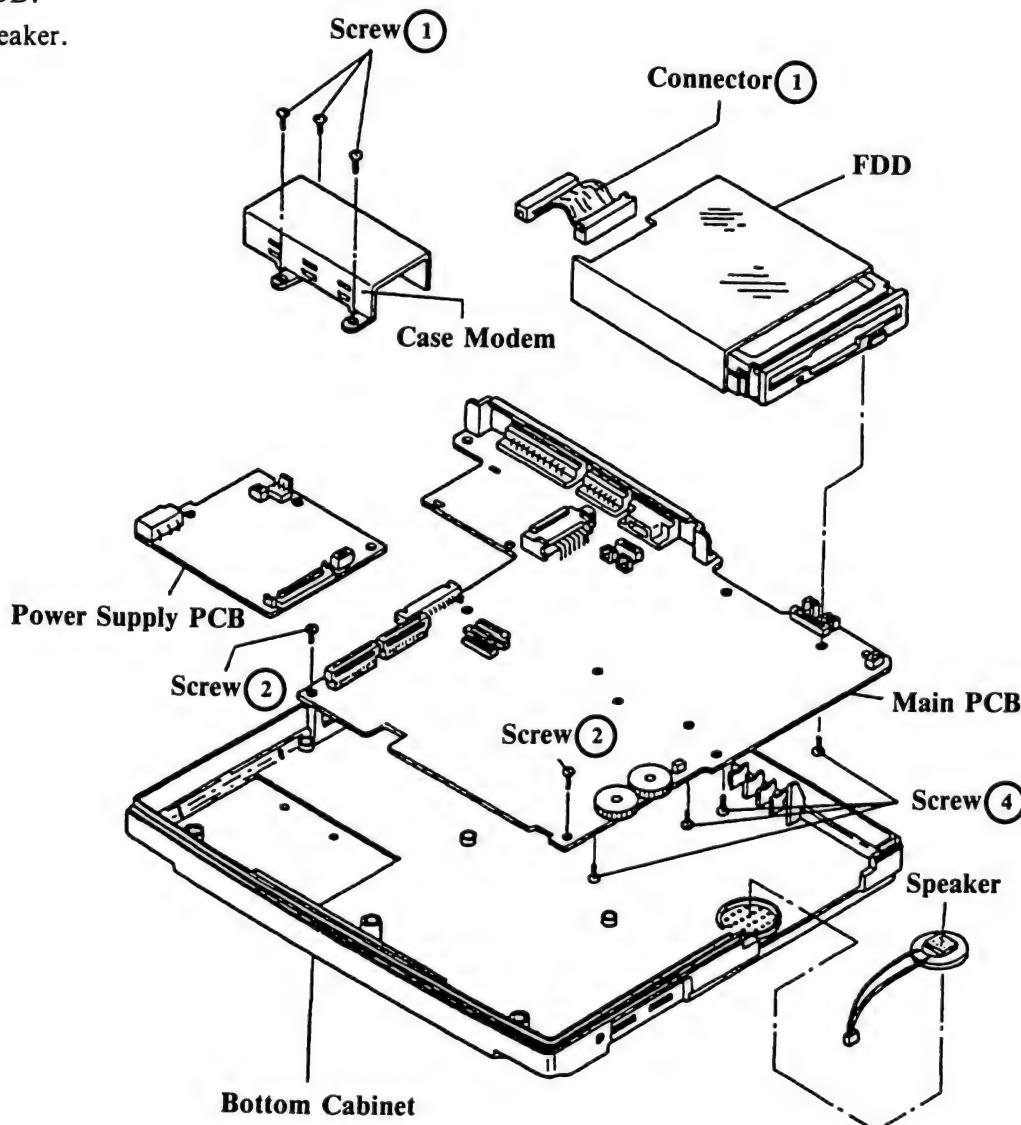

Figure 3.5
Remove the three screws ① which hold Case Modem in place. (Figure 3.5)